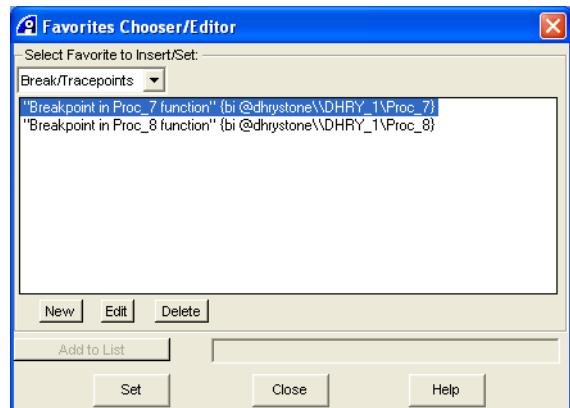

Figure 11-45 Favorites/Chooser Editor dialog box
1. Select **Debug → Breakpoints → Set Break/Tracepoint from List → Break/Tracepoint Favorites...** from the Code window main menu to display the Favorites/Chooser Editor dialog box. Figure 11-45 shows an example. Any previous breakpoints that have been added to the list are shown.